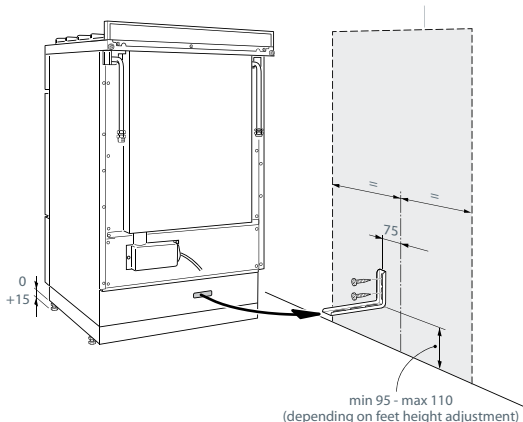

Fig. 18a Fitting the anti-tilt bracket
- 1 After you have located where the cooker is to be positioned, mark on the wall the place where the two screws of the anti-tilt bracket have to be fitted. Please follow the indications given in Fig.18a.
- 4 Move the cooker to the wall and adjust the height of the anti-tilt bracket so that it can engage in the slot on the cooker's back, as shown in Fig.18a.